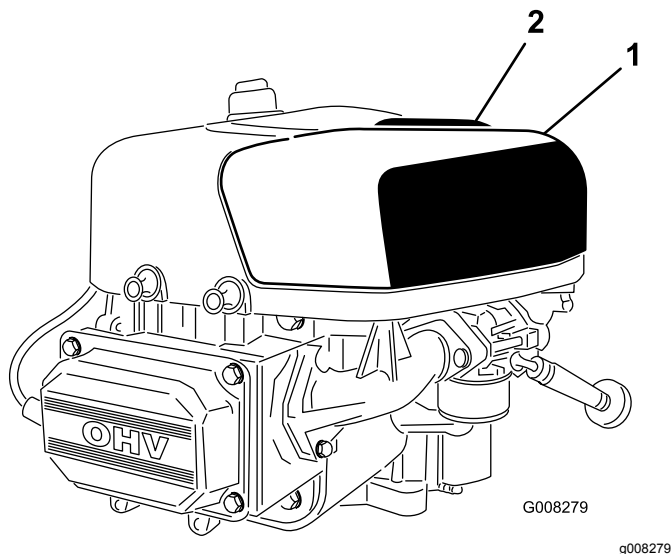

**Figure 23**
4. Carefully slide the paper element and the foam element from the blower housing (Figure 23).
2. Align the tabs on the air cleaner cover with the slots of the blower housing (Figure 23).